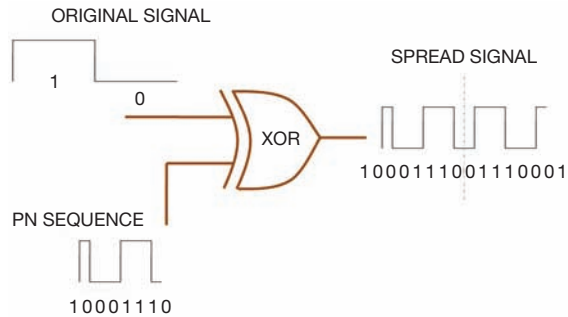

Figure 3 The multiplication used here is a logical XOR operation that splits each bit into k number of chips, where k is the length of the PN code.
tiplies each bit of a message signal with a sequence of bits before transmission. The resultant signal is spread over a wider frequency range because the chip sequence, also called the pseudo-noise (PN) code, contains multiple-frequency components. The multiplication used here is a logical XOR operation that splits each bit into k number of chips, where k is the length of the PN code (Figure 3).